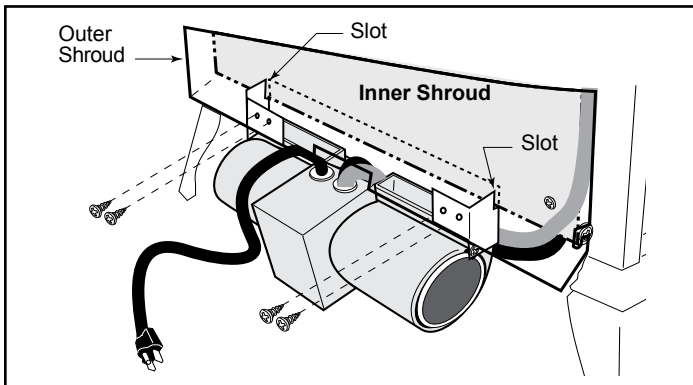

Figure 32 - Position the fan to engage the inner shroud with the fan bracket slots and secure with sheet metal screws.
- Position the fan assembly so the ducts slide between the inner and outer shroud. The inner shroud should engage with the two (2) slots in the ends of the bracket so the bracket and shroud are interlocked. (Figure 32) Secure the bracket with the four (4) sheet metal screws previously removed.